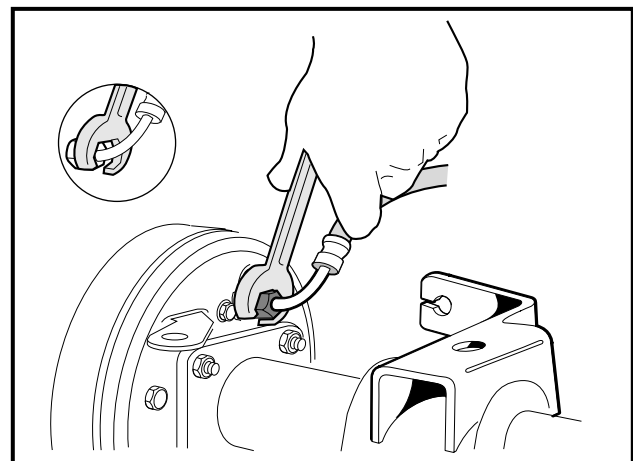

Figure 6-17 Rear Brake Hose Flare Nut
6. Use a 3/8-inch flare nut wrench and remove the brake hose fitting from the rear wheel cylinder (**Figure 6-17, Page 6-18**).
3. Use a 3/8-inch flare nut wrench and remove the brake hose fitting from the rear wheel cylinder (**Figure 6-17, Page 6-18**).